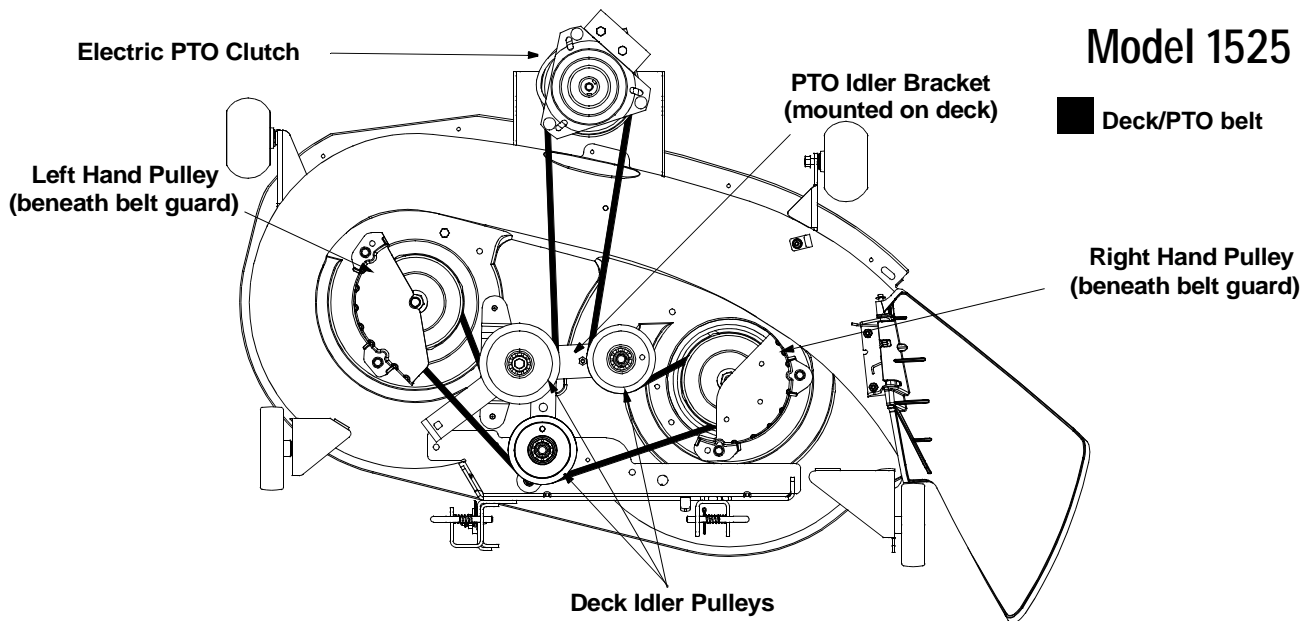
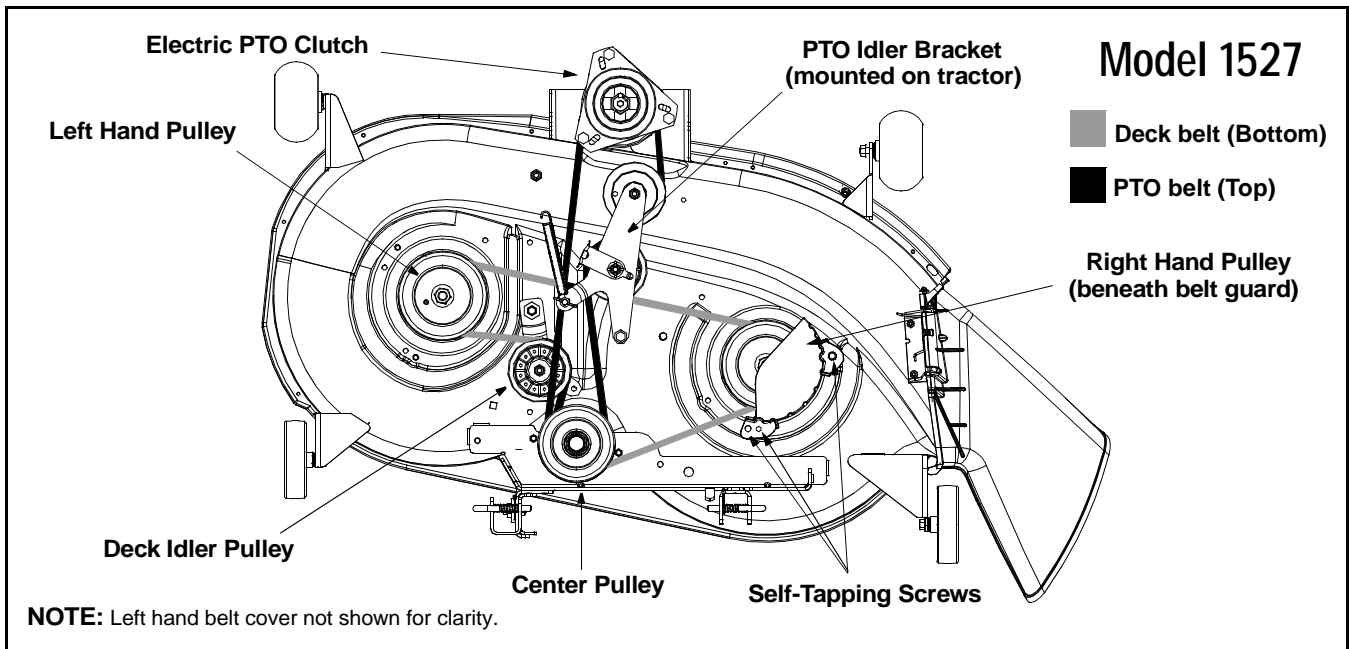

Figure 26
Figure 27
- Remove the PTO belt from around the tractor's electric PTO clutch. Refer to Figure 26 or Figure 27.
- Remove the belt guards by removing the self-tapping screws that fasten them to the deck. See Figure 26 or Figure 27.
- Route the new belts as shown in Figure 26 or Figure 27.